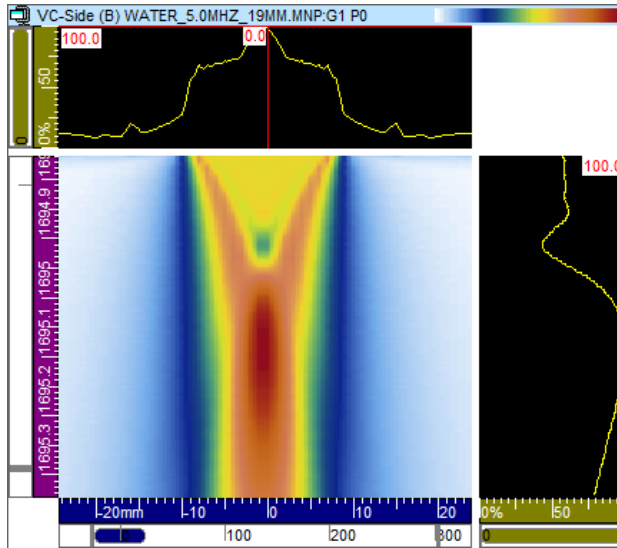

Figure 10-3 Example of layout for a PASS file
6. Display a Side (B) view to visualize the PASS files. (Figure 10-3 on page 447 shows an example of a possible layout, including the echo dynamics along the reference cursor.)